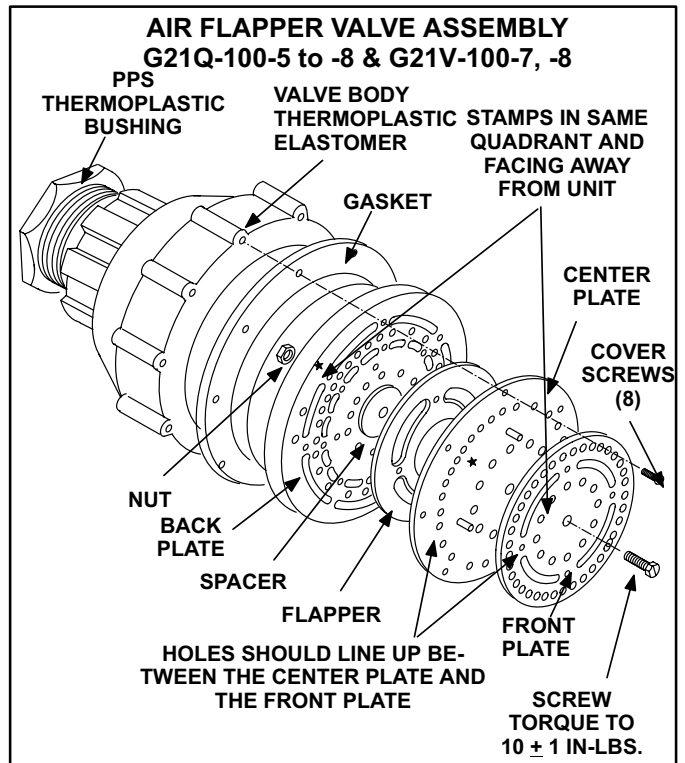

FIGURE 71
- 3 - EXTREME CARE SHOULD BE TAKEN WHEN DISASSEMBLING INTERNAL COMPONENTS OF THE VALVE. If taken apart, plates could be rotated out of phase or reversed. Spacer thickness has an extremely low tolerance. Note that each plate has a stamp of the spacer thickness and a star or the words "THIS SIDE OUT." These stamps should all lie in the same quadrant and face the outside of unit. See figures 71 and 72. Newer air flapper valve assemblies for the -40 / 50 / 60 / 80 contains a plate made from PPS thermoplastic with a